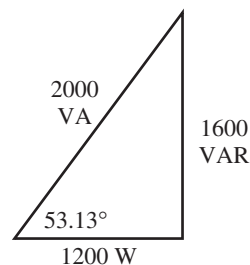

FIGURE 17–53
- Fig. 17–7: 0.6 (lag); Fig. 17–8: 0.97 (lead); Fig. 17–9: 0.6 (lag)